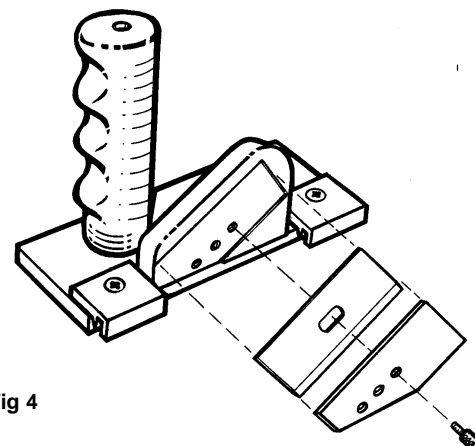

Fig 4
Remove the Blade Screw and the Blade Cover from the Blade Holder. Place one #270 blade, sharp edge down, in the slot on the Blade Holder and line up the hole in the blade with the desired depth setting. Replace the Blade Cover and Blade Screw. **Fig. 4**
8. Depress the Anti-Crawl Pin and firmly pivot the Blade Holder down into the mat. **Fig . 4**